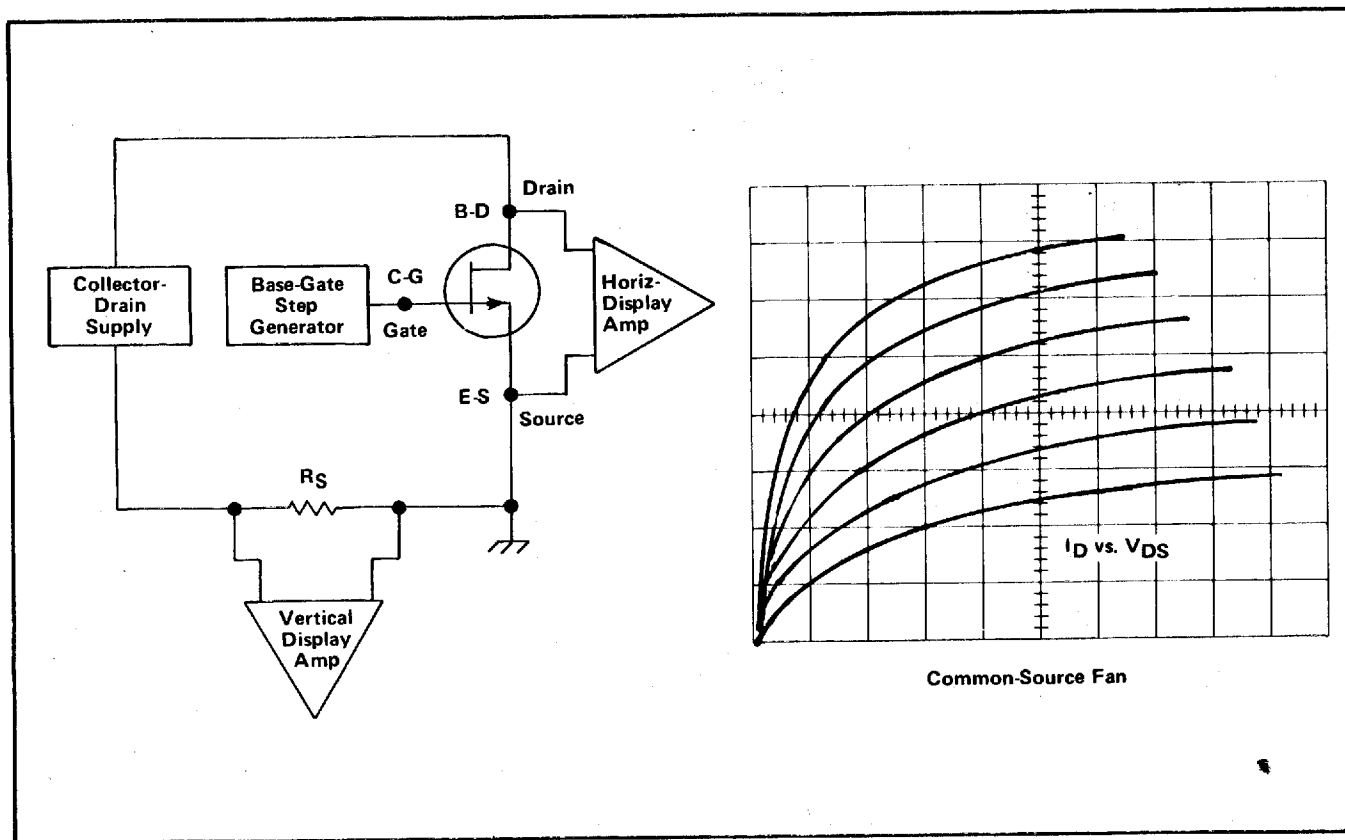

Fig. 1-5. Simplified diagram showing the connection of an FET to the 7CT1N and a typical display.
**Installation.** Connect the FET to the device testing jacks through the transistor-FET adapter which is included with the 7CT1N. This adapter is wired to accept devices with gate-drain-source configurations. If the adapter can not be conveniently used, connect the leads directly to the device testing jacks as shown in Fig. 1-5.
**Go, No-Go** Turn the COLLECTOR/DRAIN VOLTS control clockwise to obtain a horizontal trace of about 5 divisions. Turn the STEP AMPL switch clockwise until a display similar to that shown in Fig. 1-5 is obtained.